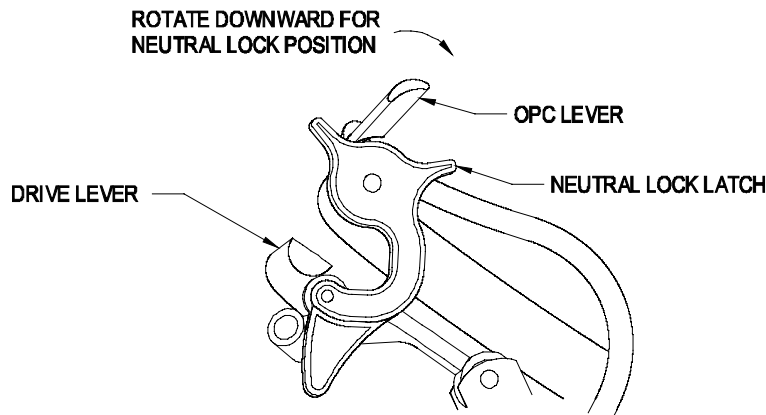
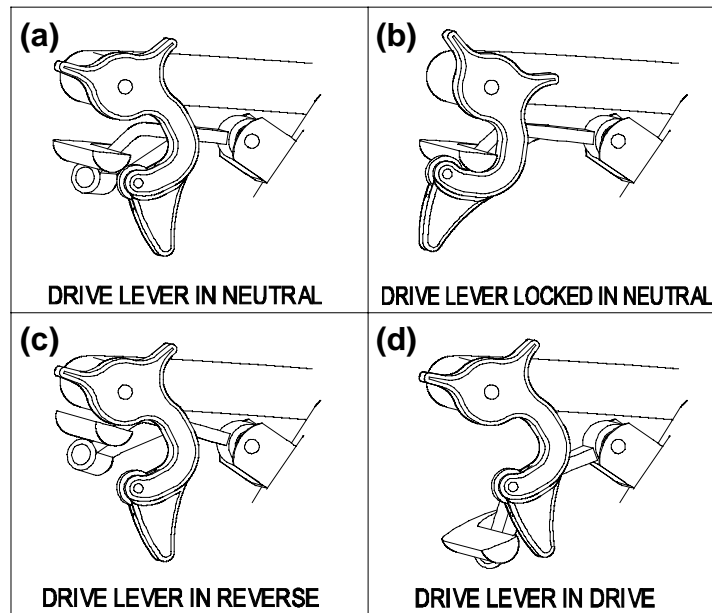

FIGURE 8
FIGURE 9
Refer to figure 6. Position speed control lever in neutral. Position drive levers in neutral and engage the neutral lock latches (See Figure 9(b)). Drive lever linkages are shipped with upper ball joints installed. Thread a 3/8-24 LH jam nut, from the bolt bag, onto the lower end of each drive lever linkage. Identify the lower ball joints installed on hydro control arm weldments. Thread lower end of each drive lever linkage into the lower ball joint until hole in upper ball joint aligns with hole in drive lever. Install 5/16-18 x 1 3/4 hex cap screws and 5/8-18 nyloc nuts from the bolt bag and tighten. This will give an approximate setting for drive lever linkages; you will need to refer to Section 5.2.9 step d to complete the drive lever linkage adjustment.
4.1.2 Operator Presence Control (OPC) Levers: Located on the upper handle assembly directly above the handle grips (See Figure 8). **When these levers are depressed, the OPC system senses that the operator is in the normal operator's position. When the levers are released, the OPC system senses that the operator has moved from the normal operating position and will kill the engine if either the speed control lever is *not in the neutral* position or the *PTO is engaged*.**
4.1.4 Drive Levers: Located on each side of the upper handle assembly directly below the handle grips (See Figure 8). These levers individually control the speed and direction of each drive wheel. When the speed control lever is moved out of the neutral position and the neutral lock latches are moved into the drive position, as shown in Figure 9, and the drive levers are released, the drive wheels are engaged in the forward direction.
- 4.1.5 **Neutral Lock/Parking Brake Latch:** Located at the end of the handles. The purpose of these latches is to allow the operator to lock the drive levers in a "neutral" position where neither of the drive wheels are engaged in either a forward or reverse direction. (See Figure 8).
To lock the drive levers in “**neutral lock**”, squeeze the drive levers to the “neutral” position See Figure 7 (a). (Do Not squeeze at the drive levers all the way back as this will cause the drive wheels to go into the full reverse direction). Place thumbs on the inner thumb lobe of the neutral lock latches and rotate them to the “neutral lock” position. See Figure 9 (b). Release the drive levers.
To place the drive levers in the “**drive**” position, slightly squeeze the drive levers while placing thumbs on the outer thumb lobe of the neutral lock latches (or the index finger on the front lobe) and rotate them from under the drive levers. **Slowly** and **carefully** release the drive levers. See Figure 9 (d).
To place the drive levers in the “reverse” position, squeeze the drive levers past the neutral position. See Figure 9 (c).